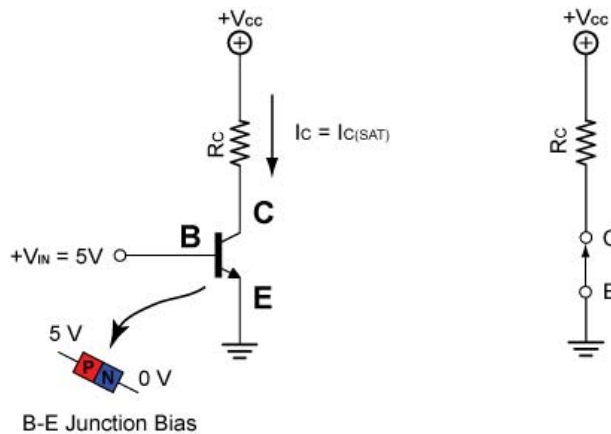

Figure 20: NPN Transistor Switch in the ON Condition
- NPN Transistor in the ON Condition: If the base-to-emitter junction is forward biased and the base current is made large enough, the collector current is forced to saturation. The collector and emitter terminals are equivalent to a closed switch (Figure 20).